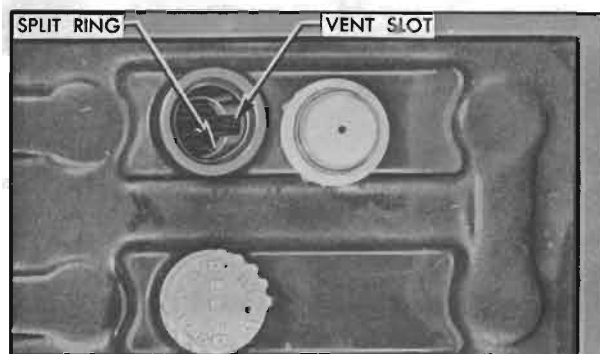

Figure 1-4—Battery Filler Well
11. *Battery.* Add distilled water to bring level to split ring at bottom of filler well. See figure 1-4. **WARNING:** *Do not overfill.* Clean top of battery; if wet with acid, neutralize with soda and wash clean.